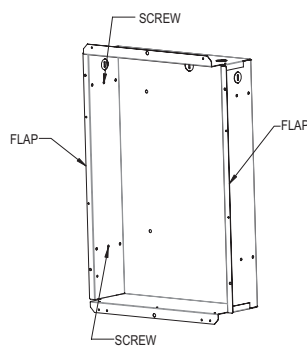

FIG. 8
5. Insert the frame into the opening, press the flap against the wall. Screw in wood screws (not included) in the left and the right studs, through holes provided for this purpose (see figure 8).